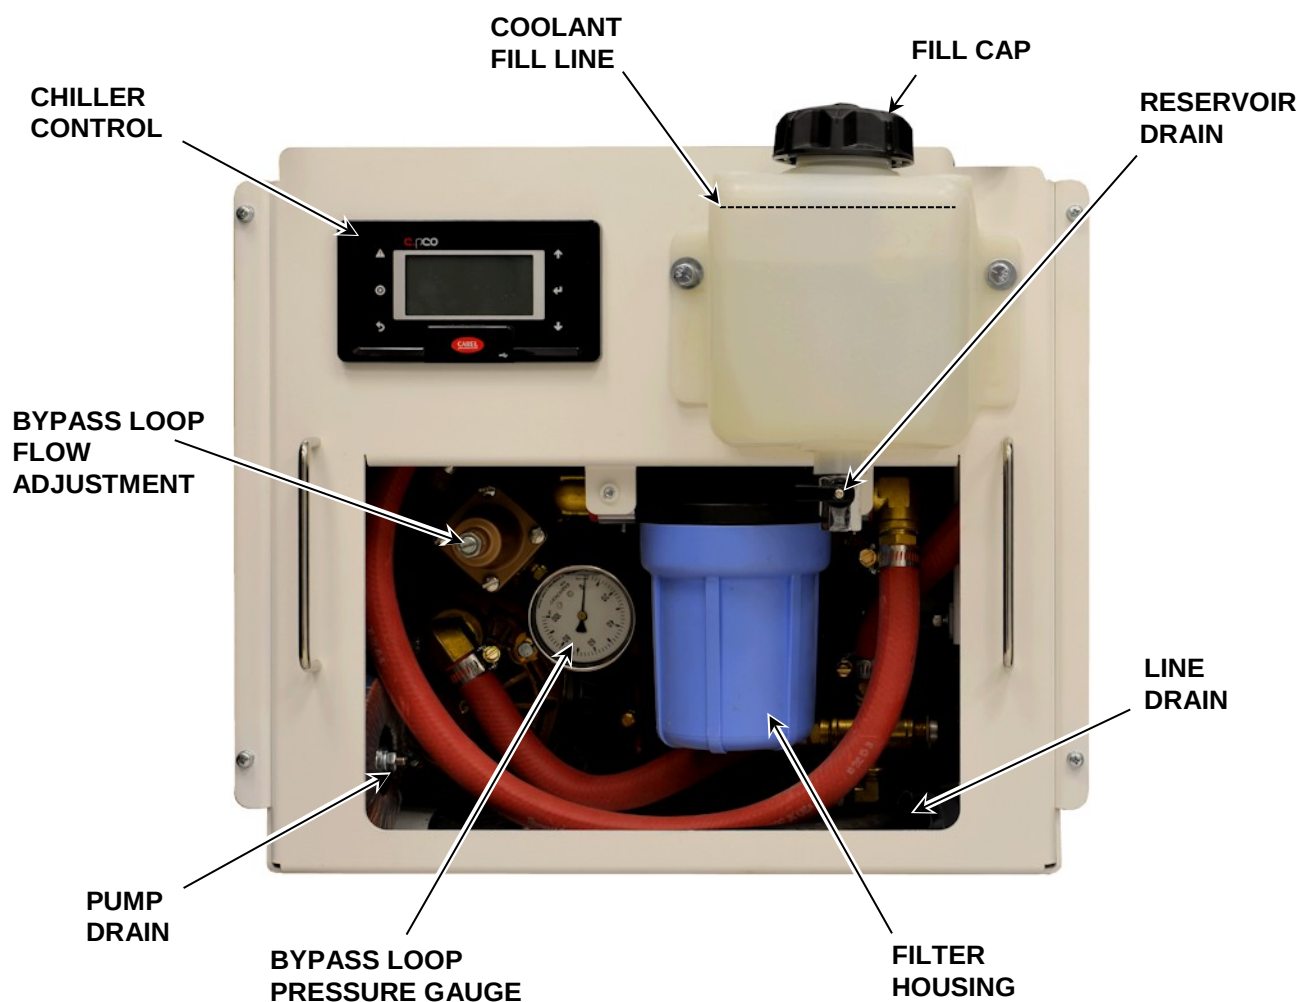

Figure 4-5. Refrigerant Chiller Type 2 Front Panel
1. Verify that the coolant level in the reservoir on the front of the unit is at the coolant fill line. See Figure 4-5.